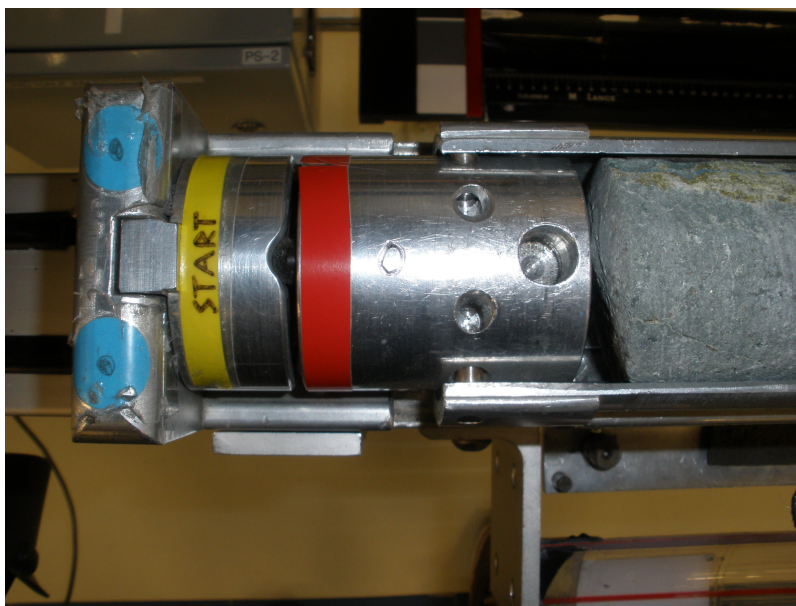

Figure 17. Whole round core correctly placed on the aluminum tray
4. Attach the not 0° aluminum strip and rotate the tray so that the 0° position is up, facing the camera (Figure 17).